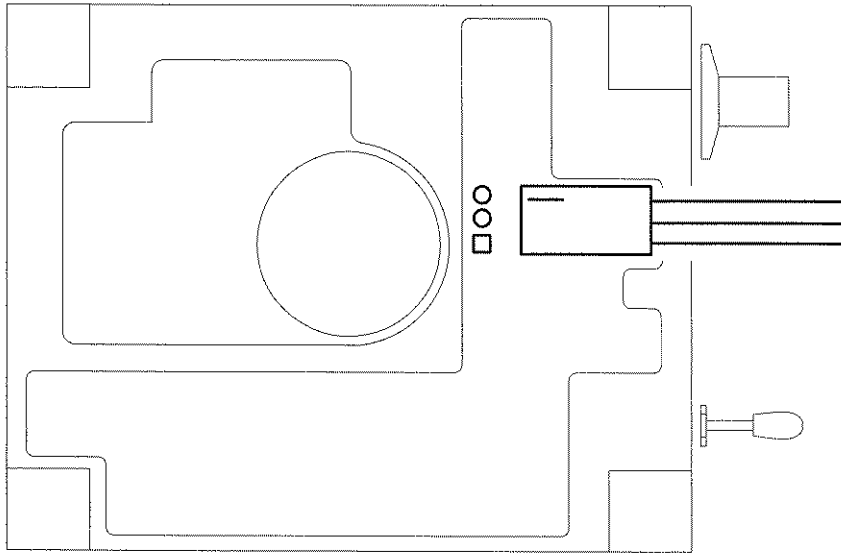

Figure 25: Shutter Connector
- Step 4:** Flip the housing back over and remove the top spacer to expose the circuit board. Study Figure 25 and locate the three-wire shutter connector. Disconnect the shutter connector.